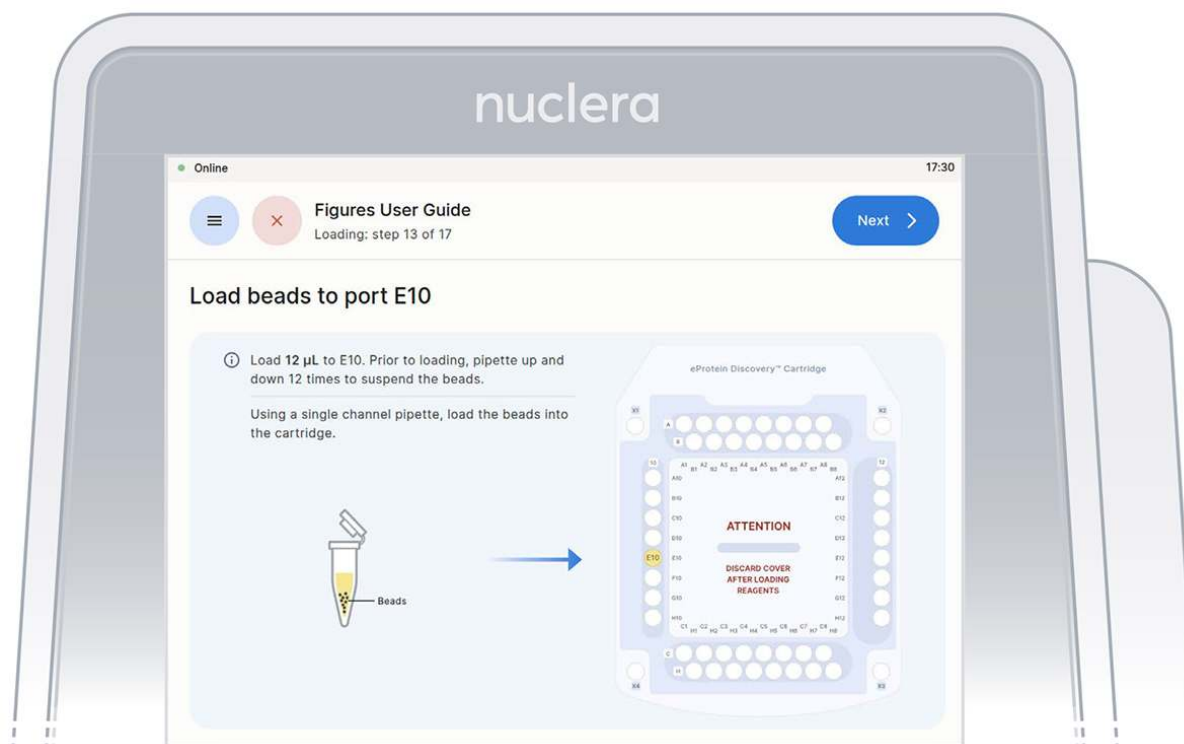

Figure 22: Loading of the Strep beads to port E10 of the cartridge
- ▶ Using a single channel p20 pipette, mix the Strep Purification Beads twelve times by gently pipetting up and down. Be careful not to introduce air bubbles. Aspirate 12 µL of the Strep Purification Beads prepared in a tube and dispense into port E10 of the cartridge (Figure 22).